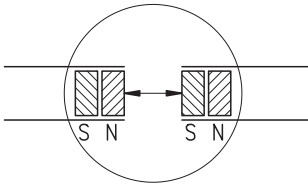

Fig. 14 : Determination of the pole position. Joining the magnetic strip
- Check polarity before joining the two parts. Both ends must attract each other (if necessary, use compass needle). In case both ends have the same polarity, shorten one end by a half pole division (fig. 14).